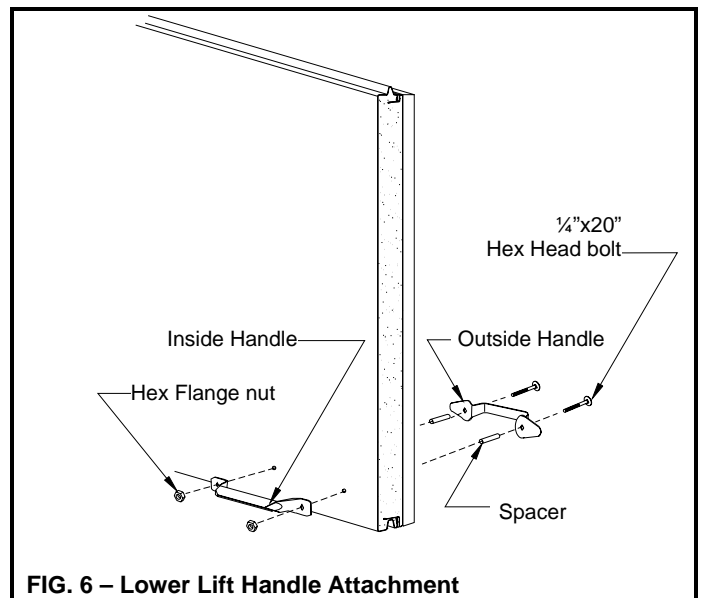

FIG. 6 – Lower Lift Handle Attachment
**Step 5:** Attach the black ornamental handle (outside) and the steel roll grip handle (inside) to the door using two 1/4" black painted hex head bolts, and two 1/4" hex nuts (See Fig. 6).